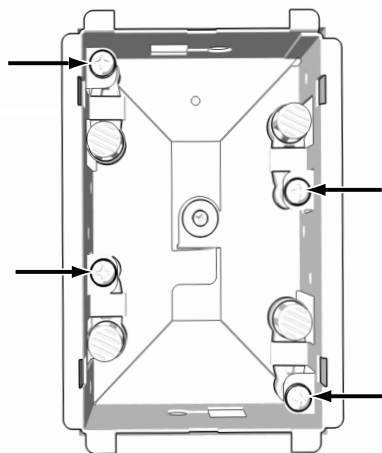

Figure 5: Roto-Lock Screw Locations
7. Hand-tighten the four Roto-Lock screws on the KP-iOS mounting frame as shown in Figure 5. The Roto-Lock clamps will automatically rotate into position behind the wall and begin clamping the mount.